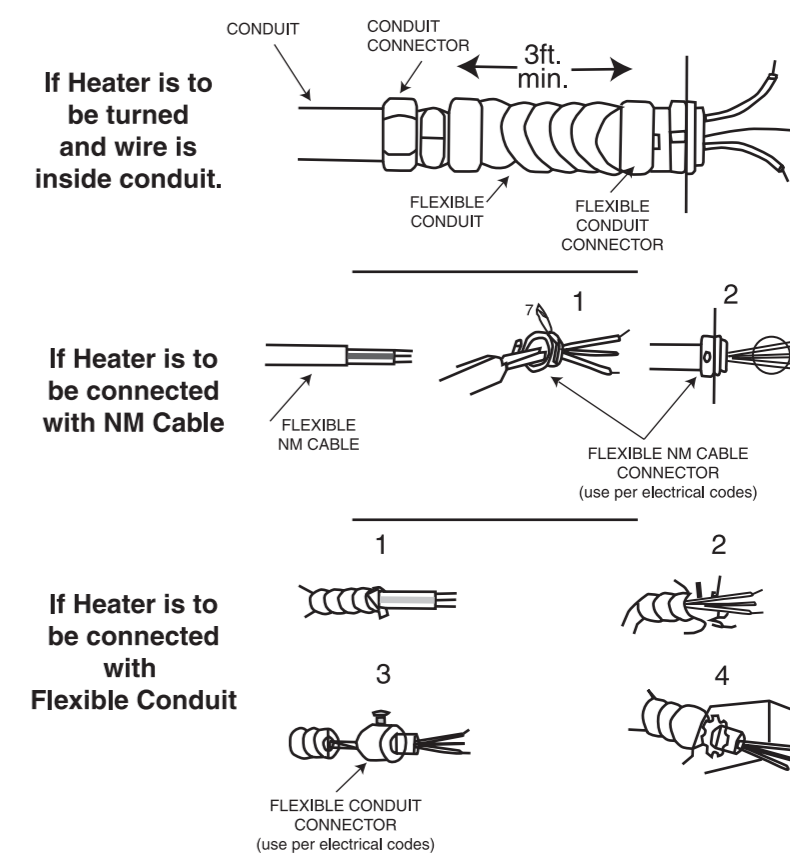

Figure 6
- Attach the cable connectors to the unit (See Figure 6) and slide the 10 gauge wire through the cable connector.
NOTE: For certain applications, conduit may be required (See figure 6). Check local electrical codes. If you run the wiring in conduit and wish to be able to turn the heater be sure to purchase enough flexible conduit to allow the heater to be turned.